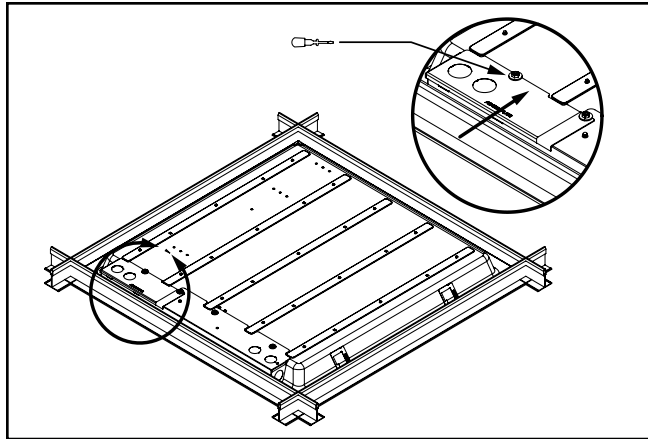

Figure 6.
- Tuck all wires and wire nuts into the fixture junction box, replace electrical access plate, and screw securely into place (Fig. 6).